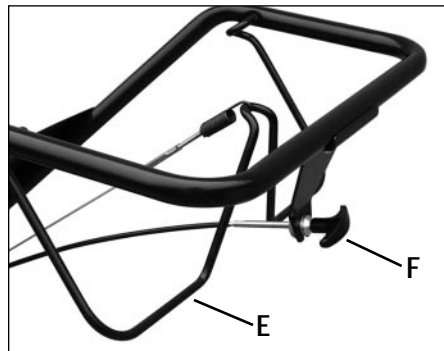

Figure 3-4: All models have a Forward Clutch Bail (E). Only Models 12209/12210 have a Reverse Clutch Control (F).
The Forward Clutch Bail (E, Figure 3-4) controls the engagement of forward drive to the wheels and tines.
2. Lift and hold the clutch bail (E, Figure 3-4) against the handlebar to start the wheels and tines rotating in a forward direction.
The Reverse Clutch Control (F, Figure 3-4) controls the engagement of reverse drive to the wheels and tines. **The reversing feature is used for maneuvering the tiller only – never engage the tines in the ground while operating in reverse.**
3. Lift the handlebar until the tines clear the ground, look behind you to avoid any obstacles, and then pull the control knob (F, Figure 3-4) out. The wheels and tines will rotate in a reverse direction.